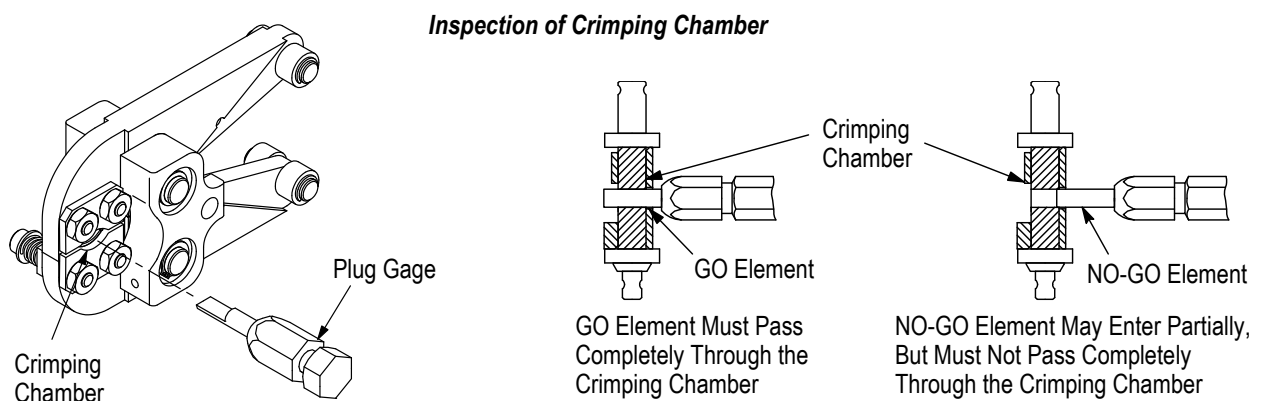

Figure 10
3. Align the GO element with the crimping chamber. Push the element straight into the crimping chamber without using force. The GO element must pass completely through the crimping chamber (see Figure 10).
4. Align the NO-GO element and try to insert it into the crimping chamber. The element may start entry, but it must not pass completely through the crimping chamber (see Figure 10).